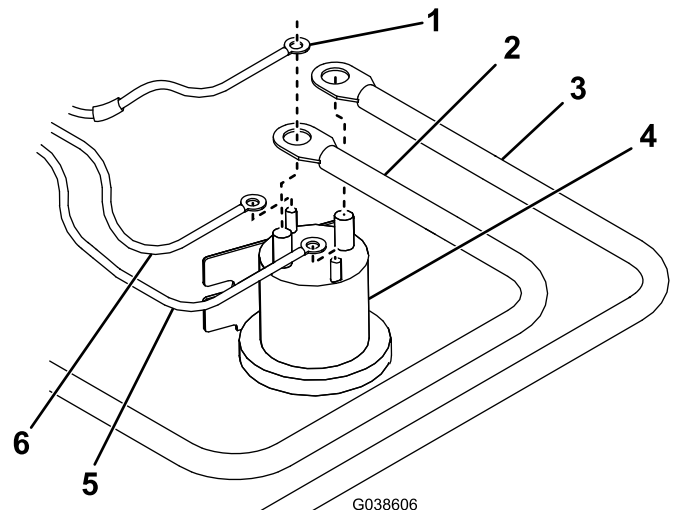

Figure 1
1. Connect the white/black wire from the wire harness to the small post on the pump solenoid (Figure 1).
2. Connect the brown wire from the wire harness to the other small post on the pump solenoid (Figure 1).
4. Connect the red power/ground cable to the large post on the pump solenoid (Figure 1).
5. Connect the long battery extension cable to the other large post on the pump solenoid (Figure 1).
11. Connect the red, fused wire to the same post on the pump solenoid as the battery extension cable (Figure 1).